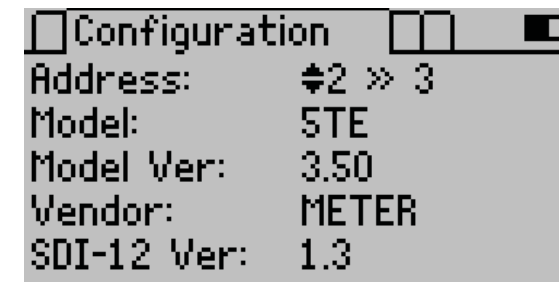

Figure 8 SDI-12 Address screen
4. Use the **UP** and **DOWN** arrows to select the new address from "0" (default) to 1–9, a–z, or A–Z (Figure 8).